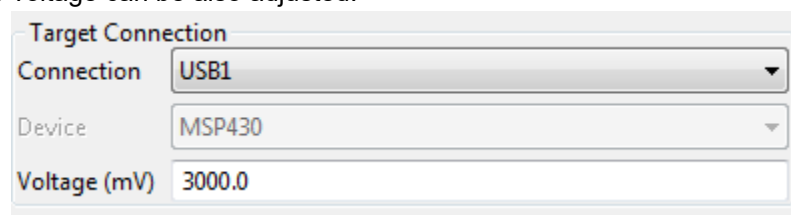

Figure 4-9. Target Connection
- **Target Connection** (see Figure 4-9): The menu is used to select which debug probe is used for EnergyTrace measurement. The voltage can be also adjusted.